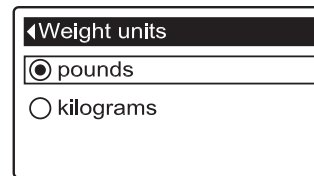

FIG. 48
5. Press the SELECT (O) button to display the Weight units menu (See Figure 48).
6. If the desired weight unit already has a black dot next to it (See Figure 48), go to Step 7. Otherwise, press the DOWN (▼) or UP (▲) buttons to scroll to the other weight unit, then press SELECT (O) to choose it.
7. Press the SELECT (O) button. The display will go back to the User preferences menu.